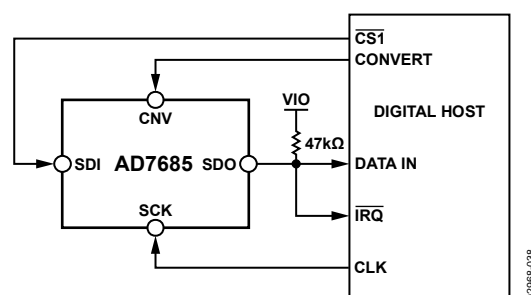
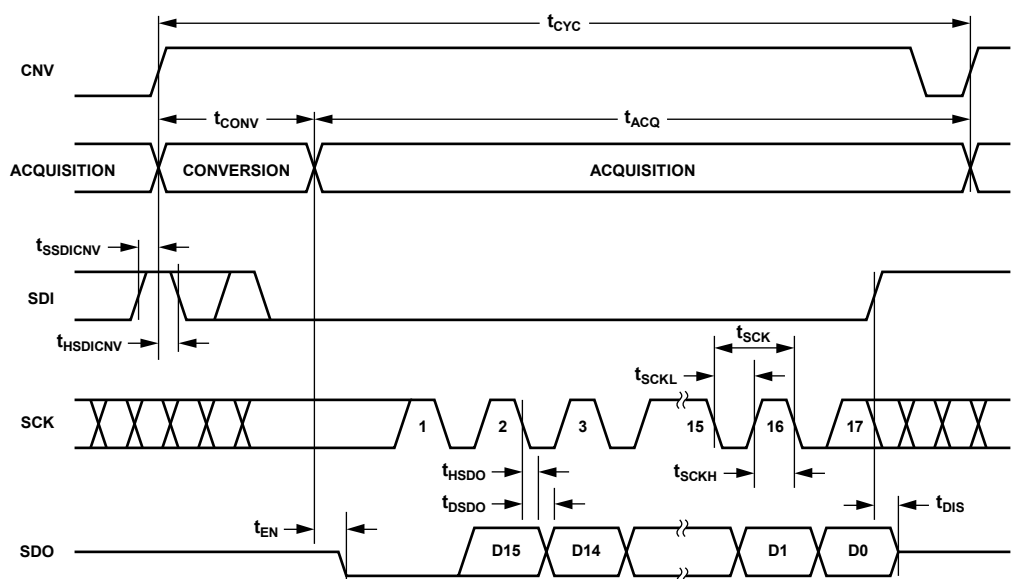

Figure 40. $\overline{\text{CS}}$ Mode 4-Wire with BUSY Indicator Connection Diagram
Figure 41. $\overline{\text{CS}}$ Mode 4-Wire with BUSY Indicator Serial Interface Timing
- In the $\overline{\text{CS}}$ mode, if CNV or SDI is low when the ADC conversion ends (see Figure 37 and Figure 41).
The connection diagram is shown in Figure 40, and the corresponding timing is given in Figure 41.